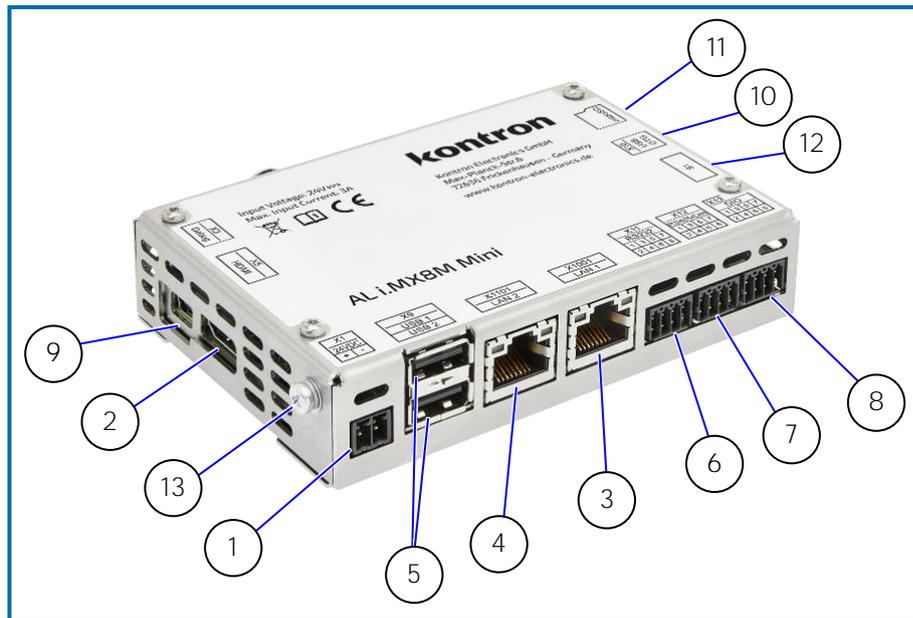

Figure 9: Top Side View
There is one 2-pin power connector supporting an input DC voltage range of 24 V DC \pm 20 %, see Figure 9 (pos. 1). The mating connector required to connect the power connector to a DC main power source is supplied with the AL i.MX8M Mini. For information on how to connect the supplied mating connector to the input power source, refer to Chapter 7.2: Wiring the DC Mating Power Connector.
There is one HDMI interface (1920 x 1080 pixel resolution), for video solutions, see Figure 9 (pos. 2). The HDMI interface is not designed for connecting cables longer than 3 m.
There are two LAN ports, see Figure 9 (pos. 3 and 4). In the software these are referred to as ETH0 and ETH1. The assignment between LAN2/LAN1 and ETH0/ETH1 depends on the software. In order to achieve the specified performance of the Ethernet port, shielded category 5 twisted pair cables must be used with 10/100 Mbit/s and Category 5E, 6 or 6E with 1 Gbit/s LAN networks. For the pin assignment of the RJ45 Ethernet connectors, refer to Chapter 10.2.3: Ethernet RJ45 Connector (X1001)
There are two USB 2.0 ports allowing for the connection of USB 2.0 compatible devices, see Figure 9 (pos. 5). The USB ports are designed for connecting short cables only.
There is a RS232 interface (RX/TX) supporting RTS/CTS, see Figure 9 (pos. 6). The RS232 interface is not designed for connecting cables longer than 3 m.
The RS485 interface in Figure 9 (pos. 7) contains also the wiring for CAN. The RS485 interface is not designed for connecting cables longer than 30 m.
The CAN interface in Figure 9 (pos. 7) also contains the wiring for RS485. The CAN address switches 1..4 are connected directly to GPIO pins and can therefore also be used for other purposes. The CAN interface is not designed for connecting cables longer than 30 m.
There is a four port DIO interface available on the front panel of the AL i.MX8M Mini, see Figure 9 (pos. 8).
There is a Micro-USB OTG interface that can act as USB2.0 compatible device or host, see Figure 9 (pos. 10).
There is a card slot to connect a microSD card for extra memory, see Figure 9 (pos. 11).
There is a functional earth self-clinching nut on the side of the housing connected to the electronic ground inside the system and to the mounting clamp on the backside of the housing, see Figure 9 (pos. 13).